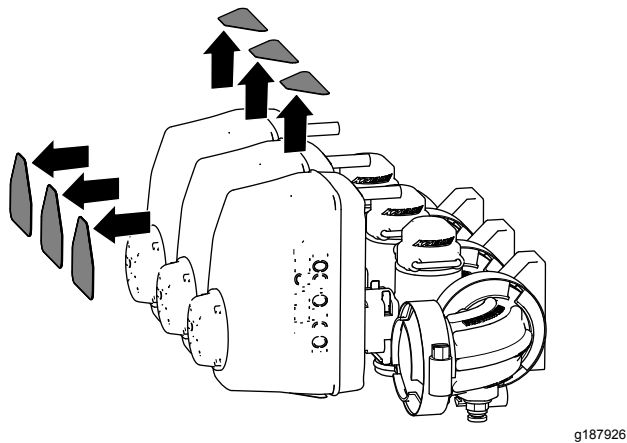

Figure 53
- Remove the 6 decals from the 3 boom-section valves (Figure 53).